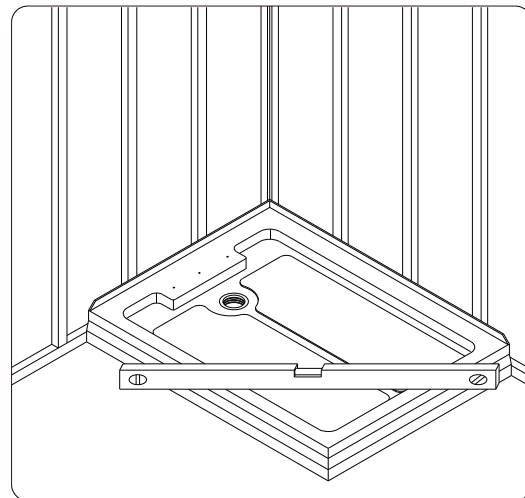

Fig. 6
5. After the bedding material has been poured and before it sets, place the tray in position with the drain assembly sliding over the waste pipe; it will be necessary to push the shower tray until the top of the tile flange aligns with the marks drawn on the wall studs and the front edge is contacting the rough floor along the entire length of the tray. Ensure that the tray is leveled in two directions. Remove all extra mortar/plaster. Allow 24 hours for the mortar to set. See fig. 6 for details.